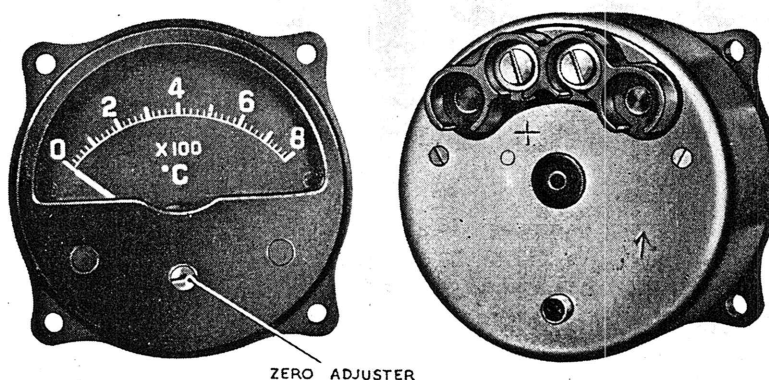

Fig. 2. Indicator, exhaust gas temperature the mometer, 0 to 800 deg. C.
10. The indicator, shown in fig. 2, consists of a sensitive moving coil millivoltmeter, the scale of which is graduated from 0 to 800 deg. C. in increments of 20 deg., the pointer and main scale markings at every 100 deg. being treated with fluorescent compound.